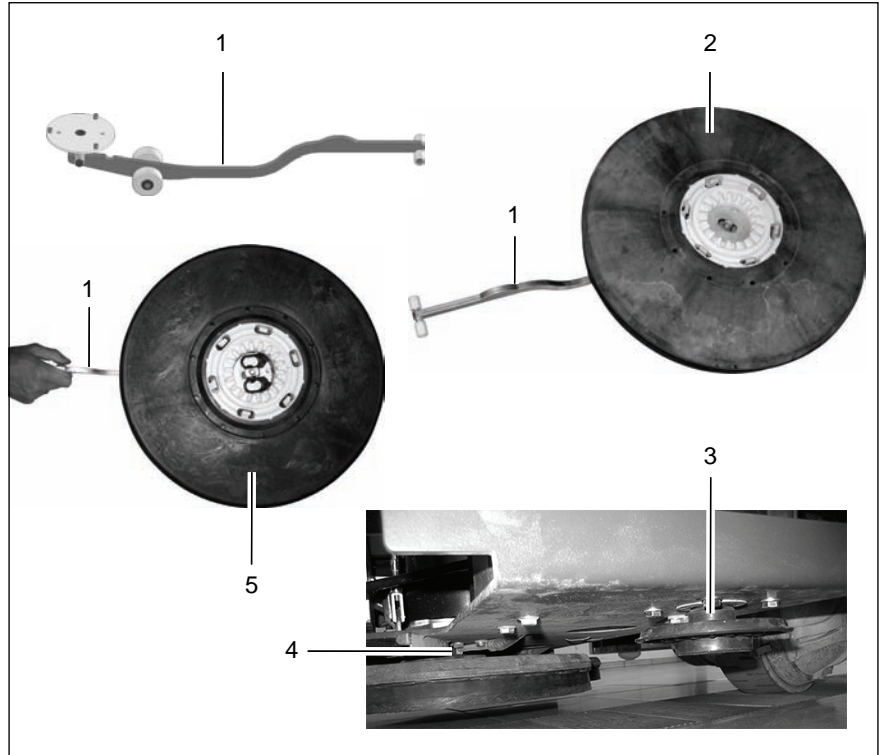
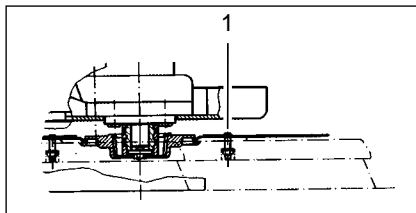

Fig. 7
Fig. 8
3. Position the middle brush (Fig. 7/2) or middle pad (Fig. 7/5) as illustrated in Fig. 7 on the assembly tool (Fig. 7/1).
4. Take hold of the assembly tool (Fig. 7/1) at the narrow end and slide the brush (Fig. 7/2) or pad (Fig. 7/5) under the middle brush catch (Fig. 7/4).
- Force the narrow end of the assembly tool (Fig. 7/1) downwards. As a result of the levering effect, the brush (Fig. 7/2) or pad (Fig. 7/5) is pressed into the brush catch and audibly latches in place.
- Slide the brush (Fig. 7/2) or pad (Fig. 7/5) under the brush head in accordance with Fig. 8.
- Raise the brush (Fig. 7/2) or pad (Fig. 7/5) and turn it slightly until the toothing meshes.
- Pull the brush (Fig. 7/2) or pad
(Fig. 7/5) up until all six hooks latch in the catches.
- Pull the brush (Fig. 7/2) or pad (Fig. 7/5) from the brush head. Or:
- Slide the narrow side of the assembly tool between the brush/pad and brush head and press the wide end of the assembly tool downwards. As a result of the levering effect, the brushes / pads are released from the brush head (Fig. 7/3).